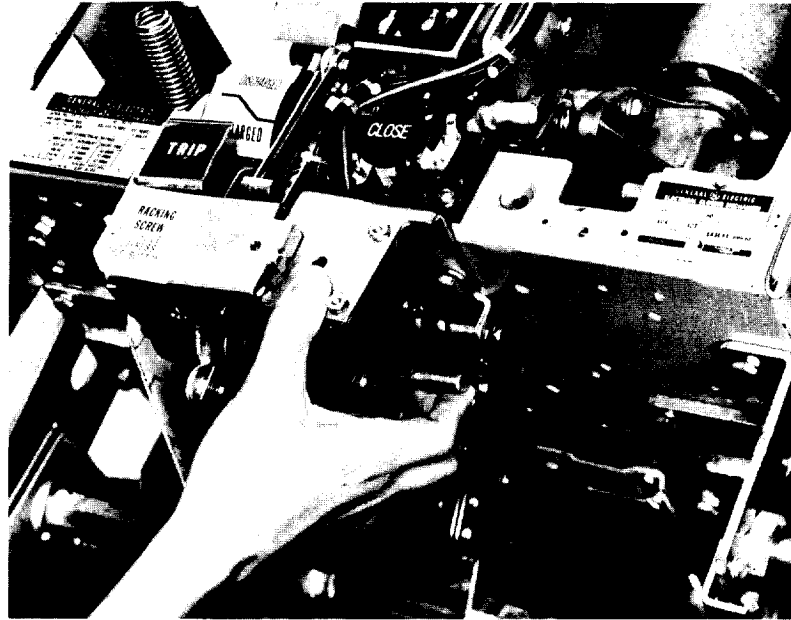

FIG. 14
13. To replace the hex head bolt and washer, rotate the crankshaft with a maintenance handle to align the holes of the lower spring anchor and the crankshaft. If the crankshaft rotation is stopped by the closing spring prop, release the closing spring prop from the roller of the ratchet assembly by pulling the armature of the closing solenoid forward. See figure 14. Manually trip the breaker, continue to rotate the crankshaft until the holes of the lower anchor plate and crankshaft are aligned. Assemble the hex head bolt to the breaker.